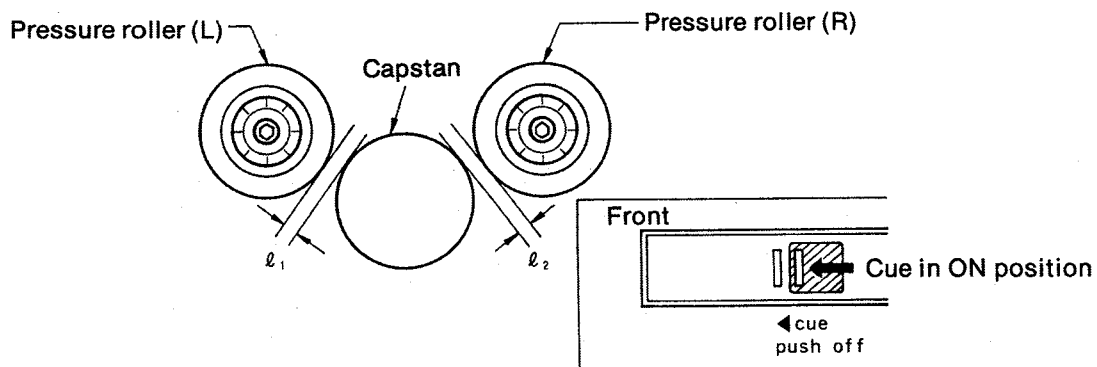

Fig. 4
**(5) Digital electronic counter**
- a. Number of figure: 4 (decimal system)
**(6) Wow meter**
### Checking method (See fig. 4)